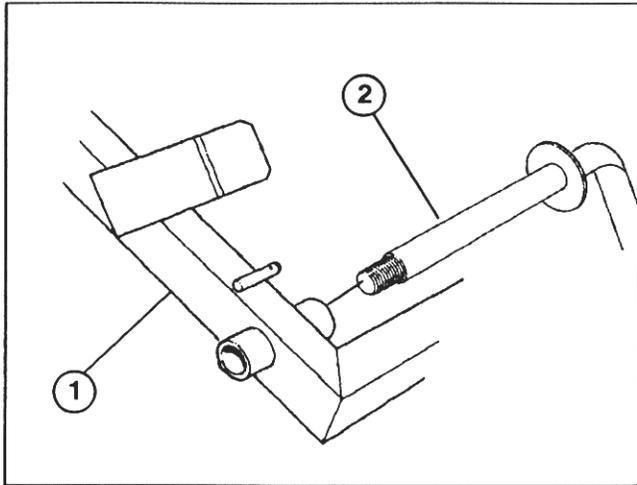

Figure 9
2. Insert lift bail thru holes in lift arm and secure with a thrust washer and 3/4-16 locknut (Fig. 9).